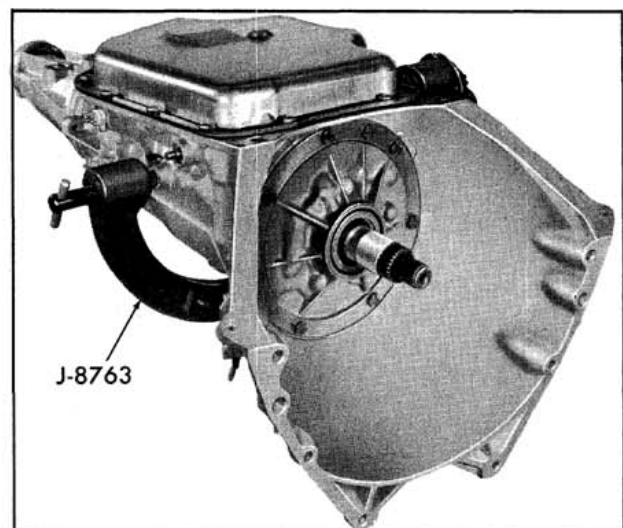

Fig. 6-28 Transmission in Holding Fixture
3. Install Fixture and transmission into Holding Tool Base J-3289-20 with bottom pan facing up. (Fig. 6-28)